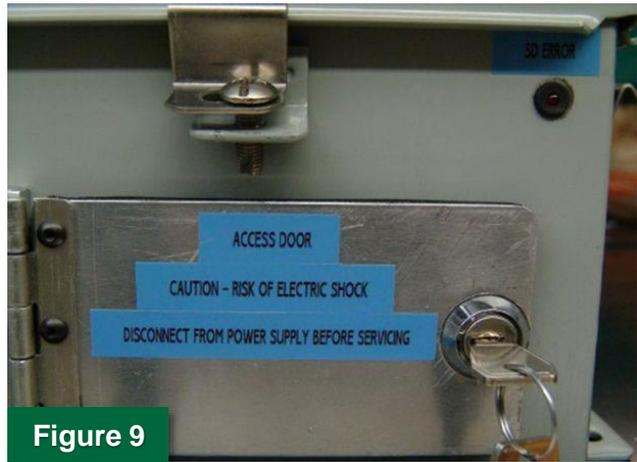

Figure 9
2. Open the access door (Figure 9) and make sure the SD card is in the SD card slot (Figure 10).